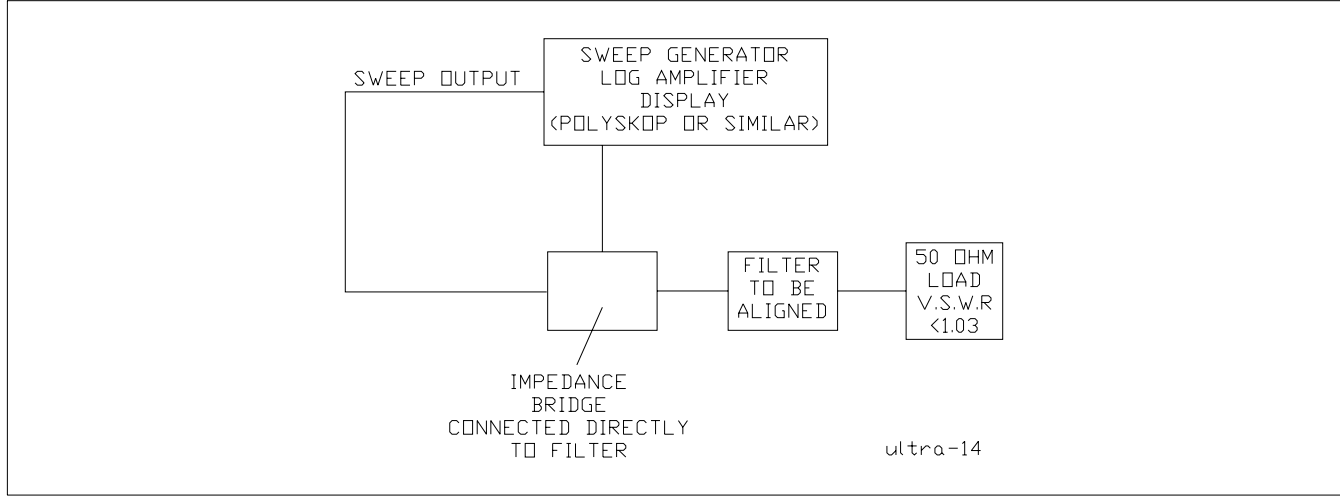

Figure 2-42 Filter Alignment Set-up
- e. Arrange test equipment and filter as shown on Figure 2-42.